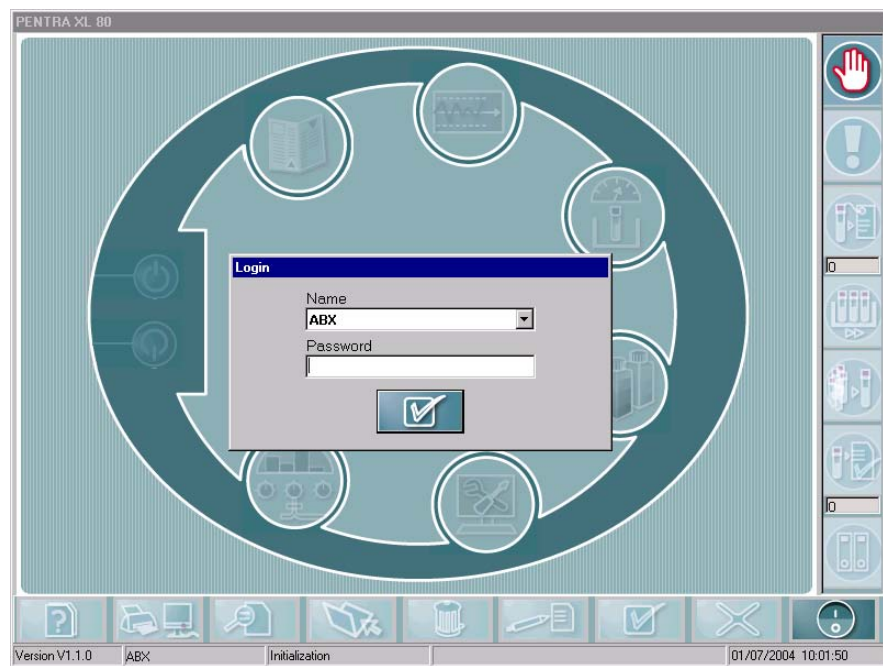

Fig. 5-33 User password
- Enter the password, then press the «Validate button» (see Fig. 5-33 User password, page 5-42).